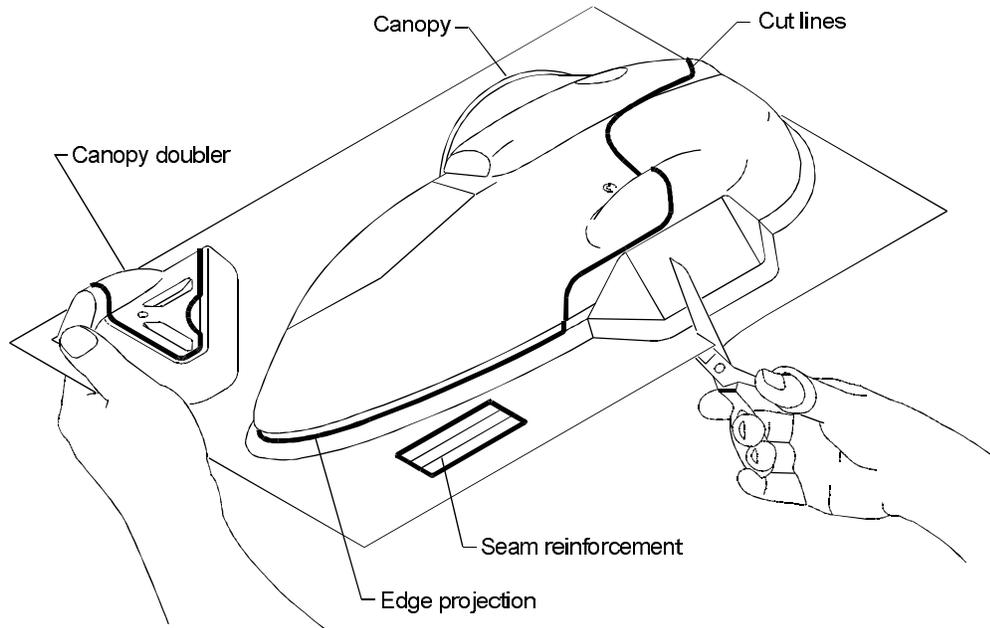

Figure 6-4.
- 1. Roughly cut the two canopy halves, canopy doublers and seam reinforcement strips from their carrier sheet with scissors as shown in Fig. 6-4. Be careful to leave the 1/4" (6mm) edge projection on both halves (this is used to hold the canopy together). Note that the right-side canopy doubler is not used in the *Corona* helicopter.